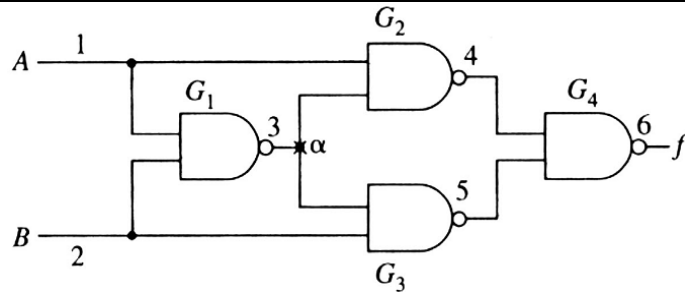

FIG. 2C
- 2C. Find the test vector for SA1 fault at node  $\alpha$  shown in **FIG. 2C** using D-Algorithm